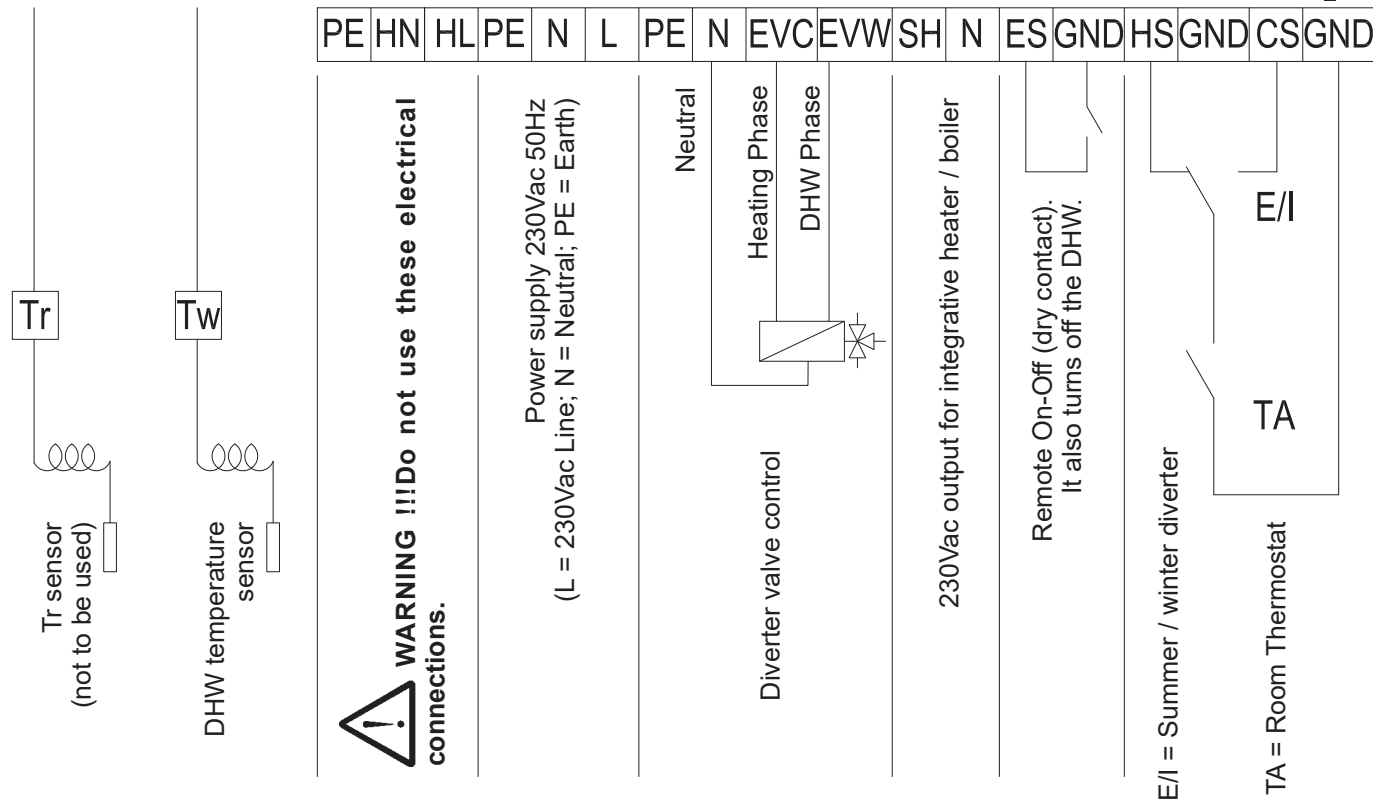

Figure 5-9 - Terminals
☞ The "Tw" sensor (14), supplied with the appliance, must be positioned on the tank using the extension cable connected to the "Tw" terminal (Figure 5-9), present in the electrical connection compartment (Figure 3-1). Enable DHW operation via the system settings: Parameter "08" = 2. (section 7.5).
To connect the appliance to the power supply, proceed as follows (Figure 5-9):
If you want to control the appliance from an external signal, connect the pair of cables between HS and GND for the heating demand and CS and GND for the cooling demand (Figure 5-9).
The DHW sensor is already connected to the terminal board (Figure 5-9), it is sufficient to take it from the terminal board compartment to the tank. Activate the DHW function following section 7.5, Parameter "08".
- 10.- Check that the heating and cooling demand inputs (Figure 5-9) are closed. If these inputs are open it is possible to force ignition by setting Parameter "08" (section 7.5) to 1,2,3 or 4, depending on the desired mode. Then, using the "M" button, select the mode to be started, as described in section 7.2.3;